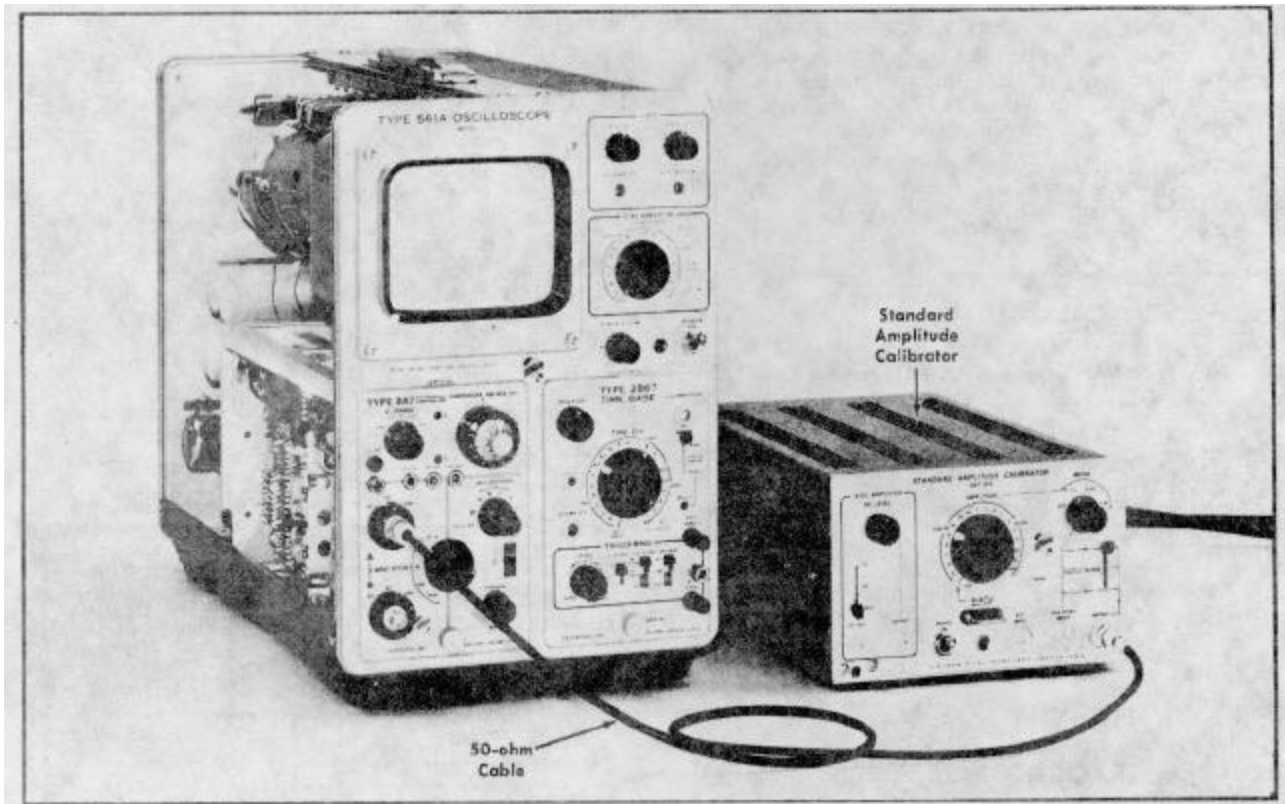

Fig. 5-14. Setup at completion of step 13c.
c. Apply a 5mV peak-to-peak 1-kHz calibrator signal through a coaxial cable to the A input connector. If possible, use an accurate calibration signal source. Fig. 5-14 shows the setup.
a. Using the same setup as shown in Fig. 5-14, check all the MILLIVOLTS/DIV switch positions for proper calibrated vertical-deflection factors. Use Table 5-3 as a guide. For all positions except the 1 mV/div position, the display amplitude tolerance should be within  $\pm 3\%$  plus the tolerance of the amplitude calibrator output.